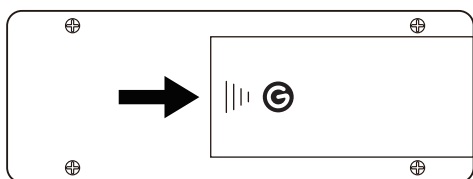

Fig. 1
2. Pull out the plastic film from the battery cover to energize the remote. {Fig. 1}